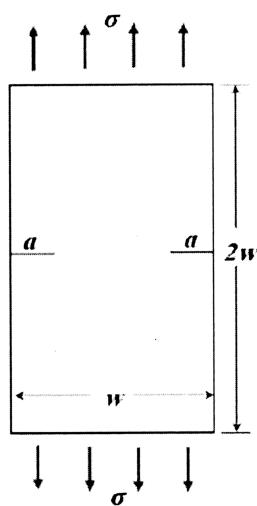

Figure 2: Double edge cracks.
- (b) A solar panel is erected on the top of a roof. The width of the panel, w , is 100 cm. During inspection, double edge cracks were found as shown in Figure 2. The size of the edge crack, a , is 1cm. The stress intensity factor of the crack is defined as